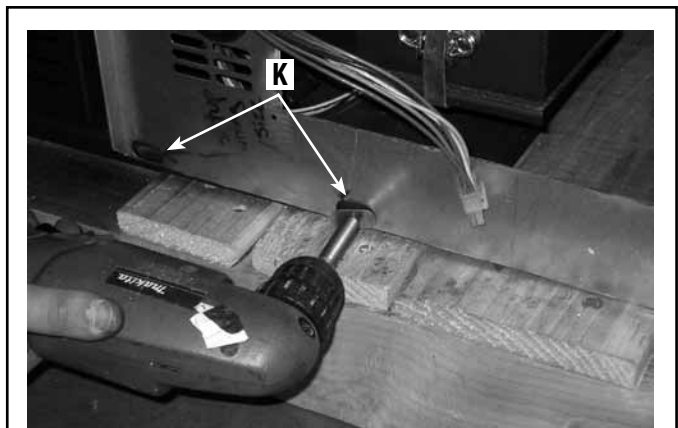

Figure 63
10. Final step: Install the 4 door washers (K), using 4 of the sheet metal screws provided, insert two on each lower side of your ZC box (shown in the **Figure 63**). You are now ready to install your P140 pellet insert. **Follow all vent clearances stated in your Installation and Operation Manual and the vent manufacturers instructions.**